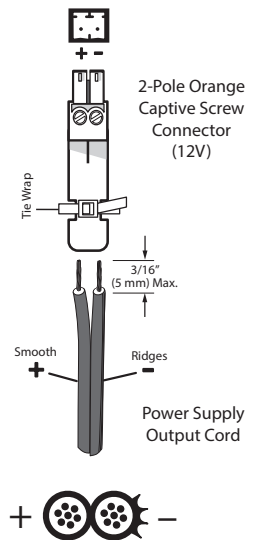

Figure 3. DC Output Wiring
2. Strip the jacket of the conductor wire (see figure 3 on the right).